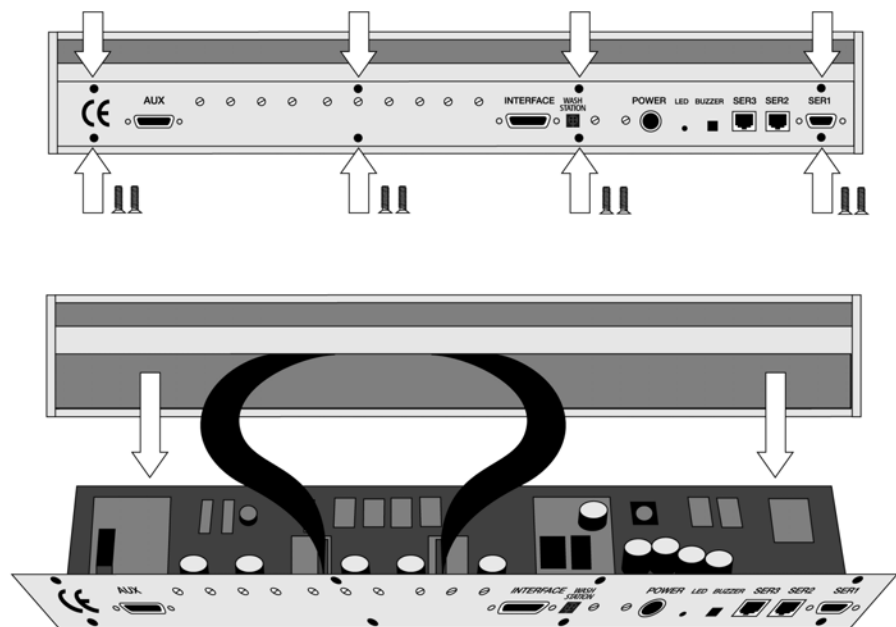

Figure 34. Replacing Control Board
- 1 Follow the sequence shown in Figure 34 to detach and release the Control board from its position inside the X Crossrail.